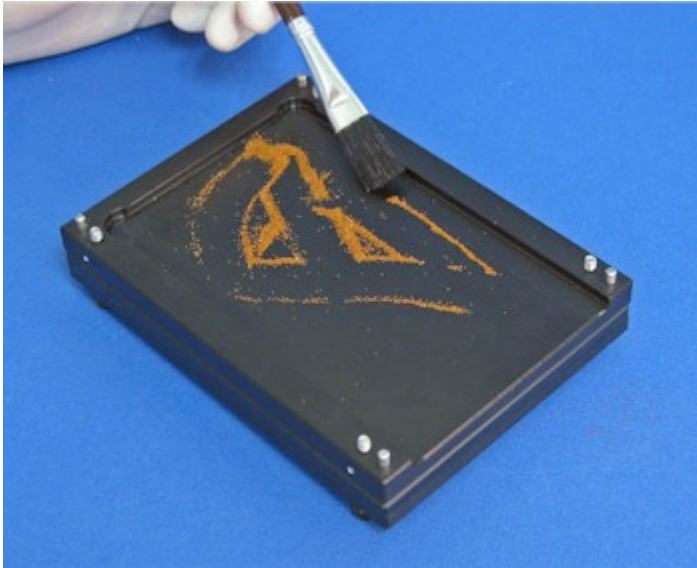

Figure 2
B. Place an excess of seeds in the VP 725ZB-3 and use a soft artist's paint brush to move the seeds over the holes and load them. See Figure 2. Then incline the VP 725ZB-3 over the catch dish and use the brush as shown in the video to remove the excess seeds.